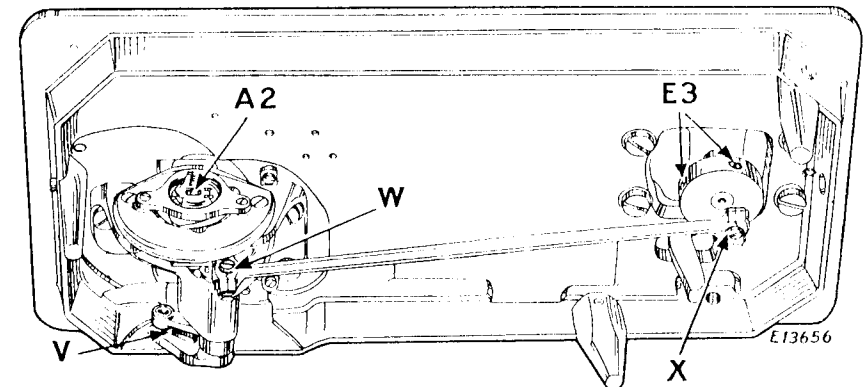

Fig. 5. Oiling Points at the Under Side of Machine Bed
at (V, Fig. 5) where the roller of the oscillating shaft crank moves in the oscillating rock shaft fork; to the head of the ball joint screw at (W) at the left hand end of the shuttle pitman, and at (X) to the head of the ball joint screw at the right hand end of the shuttle pitman.
After threading, take the bobbin case by the latch and place it on the center stud (A2, Fig.5, page 5) of the bobbin case holder, release the latch and press the bobbin case back until the latch catches the groove near the end of the stud, and the position finger enters the slot at the top of the shuttle race. Allow about two inches of thread to hang free with which to commence sewing.